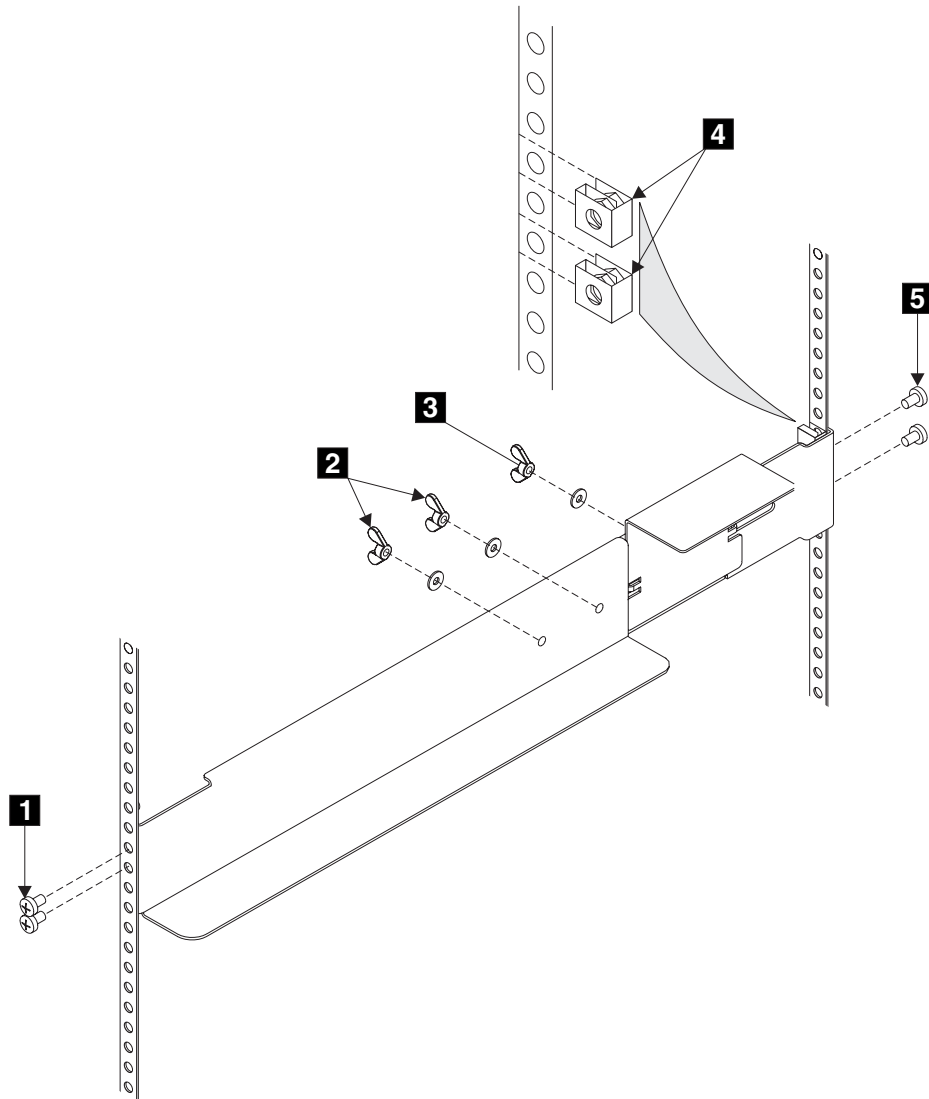

Figure 164. Installing support rails for a 2145 UPS into the rack
1. Attach nut clips **4** to the rack (see Figure 164 on page 324). These nut clips must align with the second and fourth holes of the support rail flange.